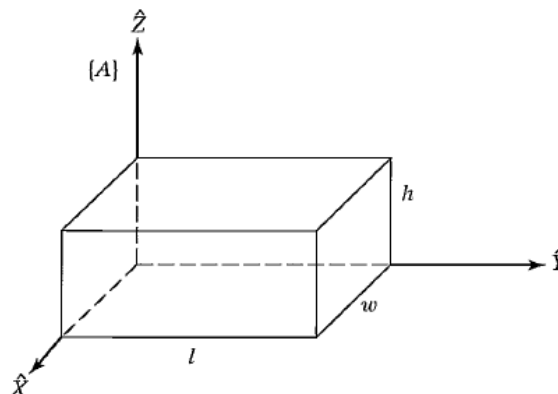

Figure .Q2B
- 1B.** Write down newton's and Euler's equation of motion. What does Lagrangian(L) stands for. Write down the Lagrangian formulation employed to derive Equation of Motion for multi link planar manipulator. **05**
- 2B.** Find the inertia tensor for the rectangular body of uniform density ρ with respect to the coordinate system shown in Figure Q2B. ($l=1; w=.5, h=2$) **03**